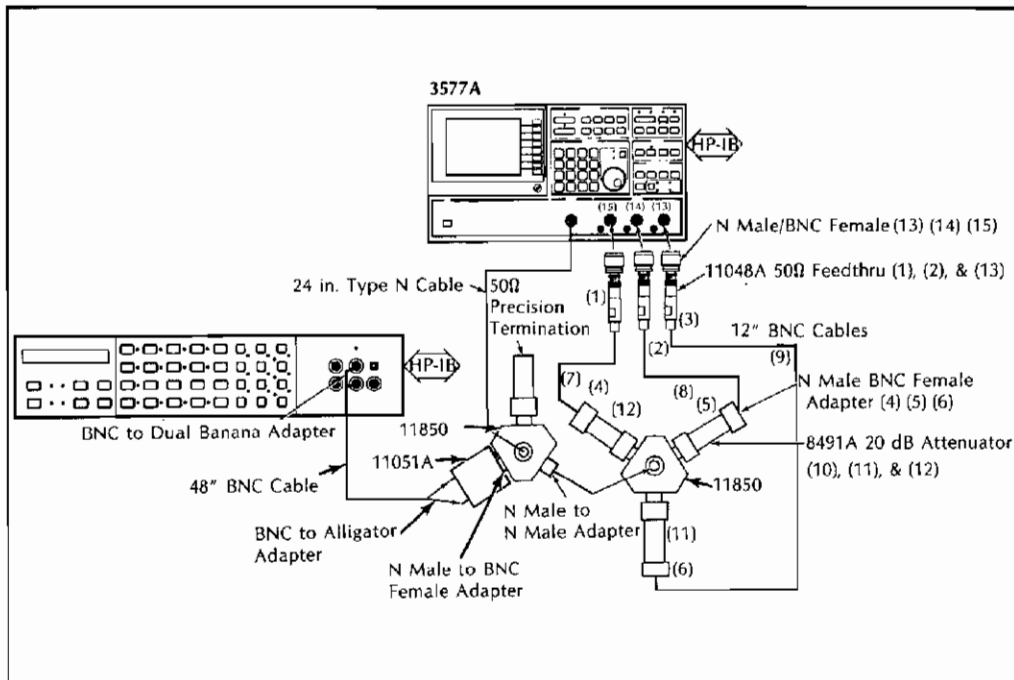

Figure 3-12 Absolute Accuracy and Flatness Test Set-Up (1 MΩ)
- mm. Connect the test equipment as shown in Figure 3-12.